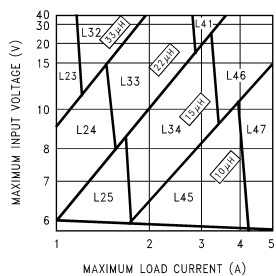
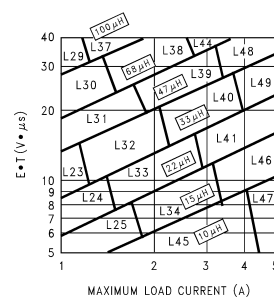

Figure 21. LM2677-3.3
Figure 24. LM2677-ADJ
**Step 3:** Determine the inductor required by using one of the four nomographs, Figure 21 through Figure 24. Inductor Manufacturer Part Numbers provides a specific manufacturer and part number for the inductor.
**Step 5:** Determine an input capacitor from Table 7 for fixed output voltage applications. Use Table 3 to find the specific capacitor type. For adjustable output circuits select a capacitor from Table 3 with a sufficient working voltage (WV) rating greater than  $V_{in\ max}$ , and an rms current rating greater than one-half the maximum load current (2 or more capacitors in parallel may be required).
**Step 3:** Use the nomograph for the 3.3V device, Figure 21. The intersection of the 16V horizontal line ( $V_{in\ max}$ ) and the 2.5A vertical line ( $I_{load\ max}$ ) indicates that L33, a 22 $\mu$ H inductor, is required.
**Step 3:** To use the nomograph for the adjustable device, Figure 24, requires a calculation of the inductor Volt•microsecond constant ( $E \cdot T$  expressed in  $V \cdot \mu s$ ) from the following formula:
Using Figure 24, the intersection of  $27V \cdot \mu s$  horizontally and the  $2A$  vertical line ( $I_{load} \text{ max}$ ) indicates that L38, a  $68\mu H$  inductor, should be used.
**Important Note:** When using the adjustable device in low voltage applications (less than  $3V$  output), if the nomograph, Figure 24, selects an inductance of  $22\mu H$  or less, Table 10 does not provide an output capacitor solution. With these conditions the number of output capacitors required for stable operation becomes impractical. It is recommended to use either a  $33\mu H$  or  $47\mu H$  inductor and the output capacitors from Table 10.